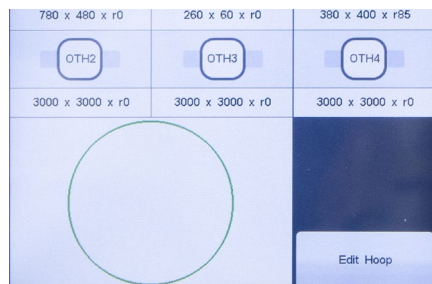

Figure 78
3. Select the hoop that corresponds with the hoop you are using. **See Figure 78.**